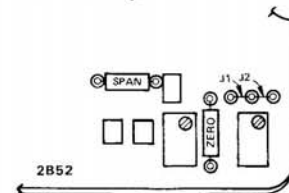

Figure 6a. Model 2B52 Coarse Zero and Span Resistor Locations
2. Remove zero and span coarse trim resistors. Observe Figure 6a (2B52) or 6b (2B53) for locations.